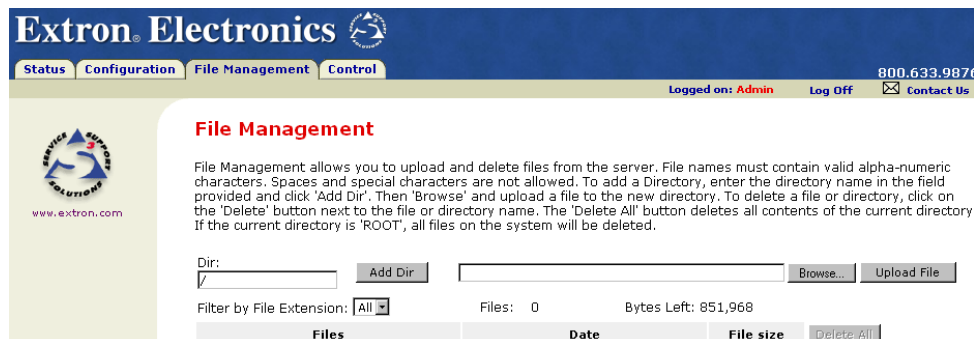

Figure 4-7 — Web server File Management screen
1. Select the File Management tab and the File Management screen (figure 4-7) is displayed.